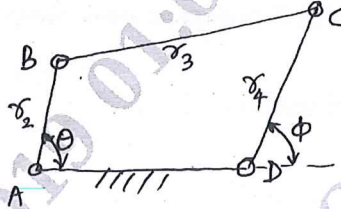

Fig.Q6
- 6 a. For the 4-bar mechanism shown in Fig.Q6, obtain Freudenstein's equation. (08 Marks)
- b. Find  $r_2$ ,  $r_3$  and  $r_4$  to generate a function  $y = x^3$ ,  $1 \leq x \leq 3$  accurate at  $x = 1.1339$ ,  $x = 2$  and  $x = 2.866$  if  $r_1 = 100\text{mm}$ ,  $\theta_s = 30^\circ$ ,  $\theta_f = 90^\circ$ ,  $\phi_s = 45^\circ$  and  $\phi_f = 135^\circ$  with respect to Fig.Q6. (12 Marks)